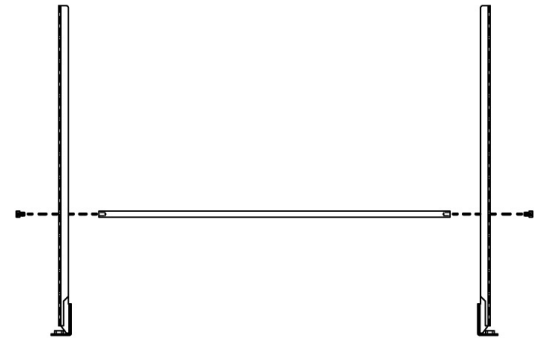

Figure 7. Cable lacing rod
- Step 3.** Install the longer cable lacing rod in between the left and right lacing bar rear support rails by tightening a supplied 10-32 socket head screw into each end of the threaded rod (see Figure 7). Multiple mounting holes are provided in the rails for optimal lacing rod positioning.